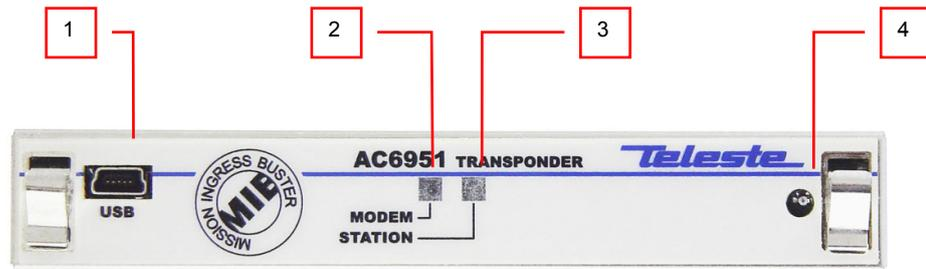

Figure 1. AC6951 transponder front panel, 1) USB mini-B service port onnector, 2) Indicator for modem status, 3) Indicator for station status, 4) Light sensor
The transponder has an USB service port (figure 1 pos.1) connection, which can be used for local configuration with a PC and standard USB A <=> USB mini-B (5-pin) cable.